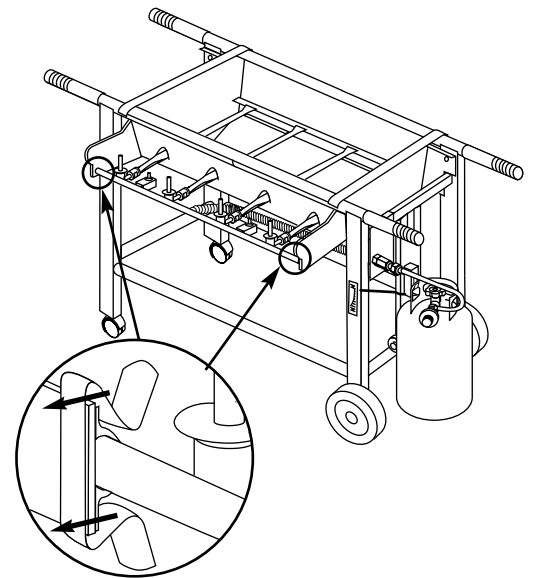

Figure 9
8. Remove the manifold by unsnapping the clips at the right and left front of the cooking box. Figure 9.